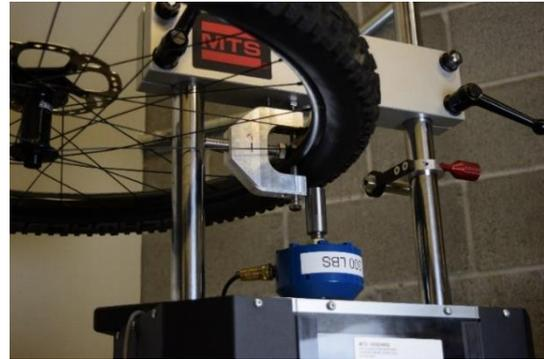

Fig. 3. Testing tire roll on our suspension dyno.
CushCore configured our MTS Roehrig EMA-2K suspension dynamometer to measure the effect CushCore has on the tire's lateral stability and tire roll (Fig. 3).
- Figure 3 is a plot of lateral stiffness vs deflection distance. CushCore (in red) is stiffer.